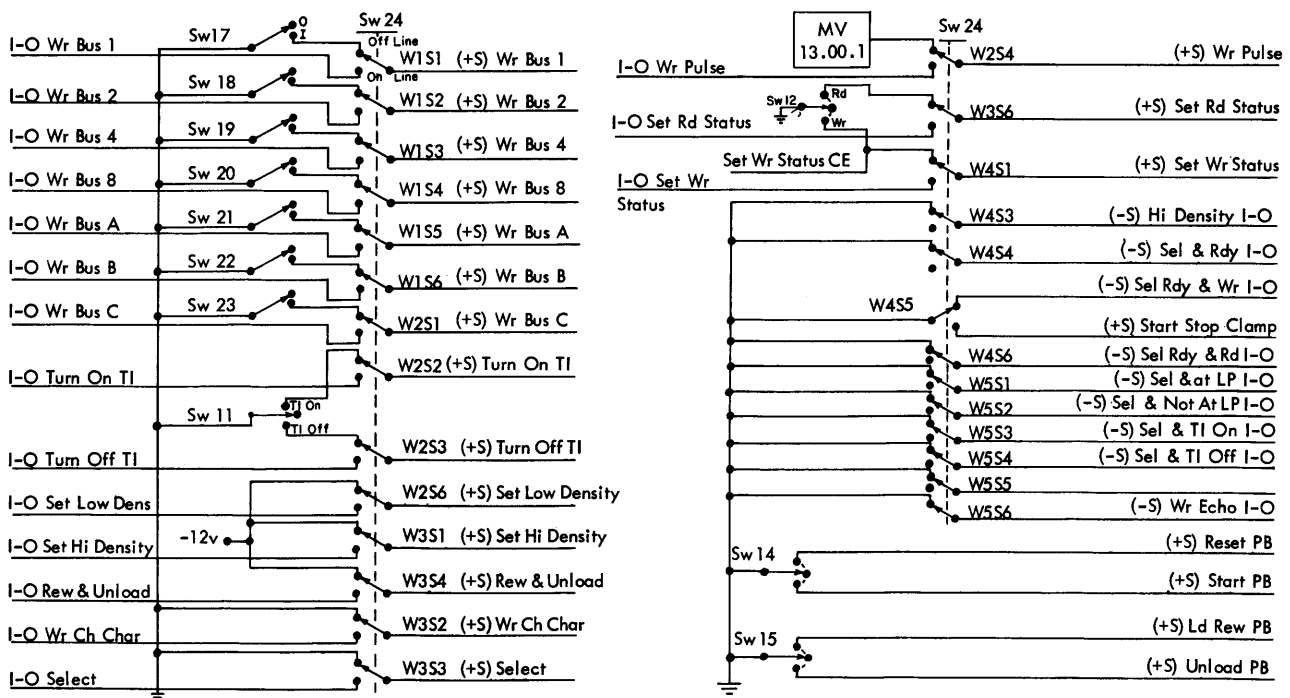

Figure 5. CE Panel Switches
## Rear CE Panel (Figures 5, 6, and 7)
or customer interruption. Its effect on the tape unit is to: (1) Block all necessary input signals at the I-O cable, (2) hold all I-O output levels at +S (ground) to prevent introducing signals onto the main I-O bus, and (3) activate the keys and switches available for CE use (see Figure 5).